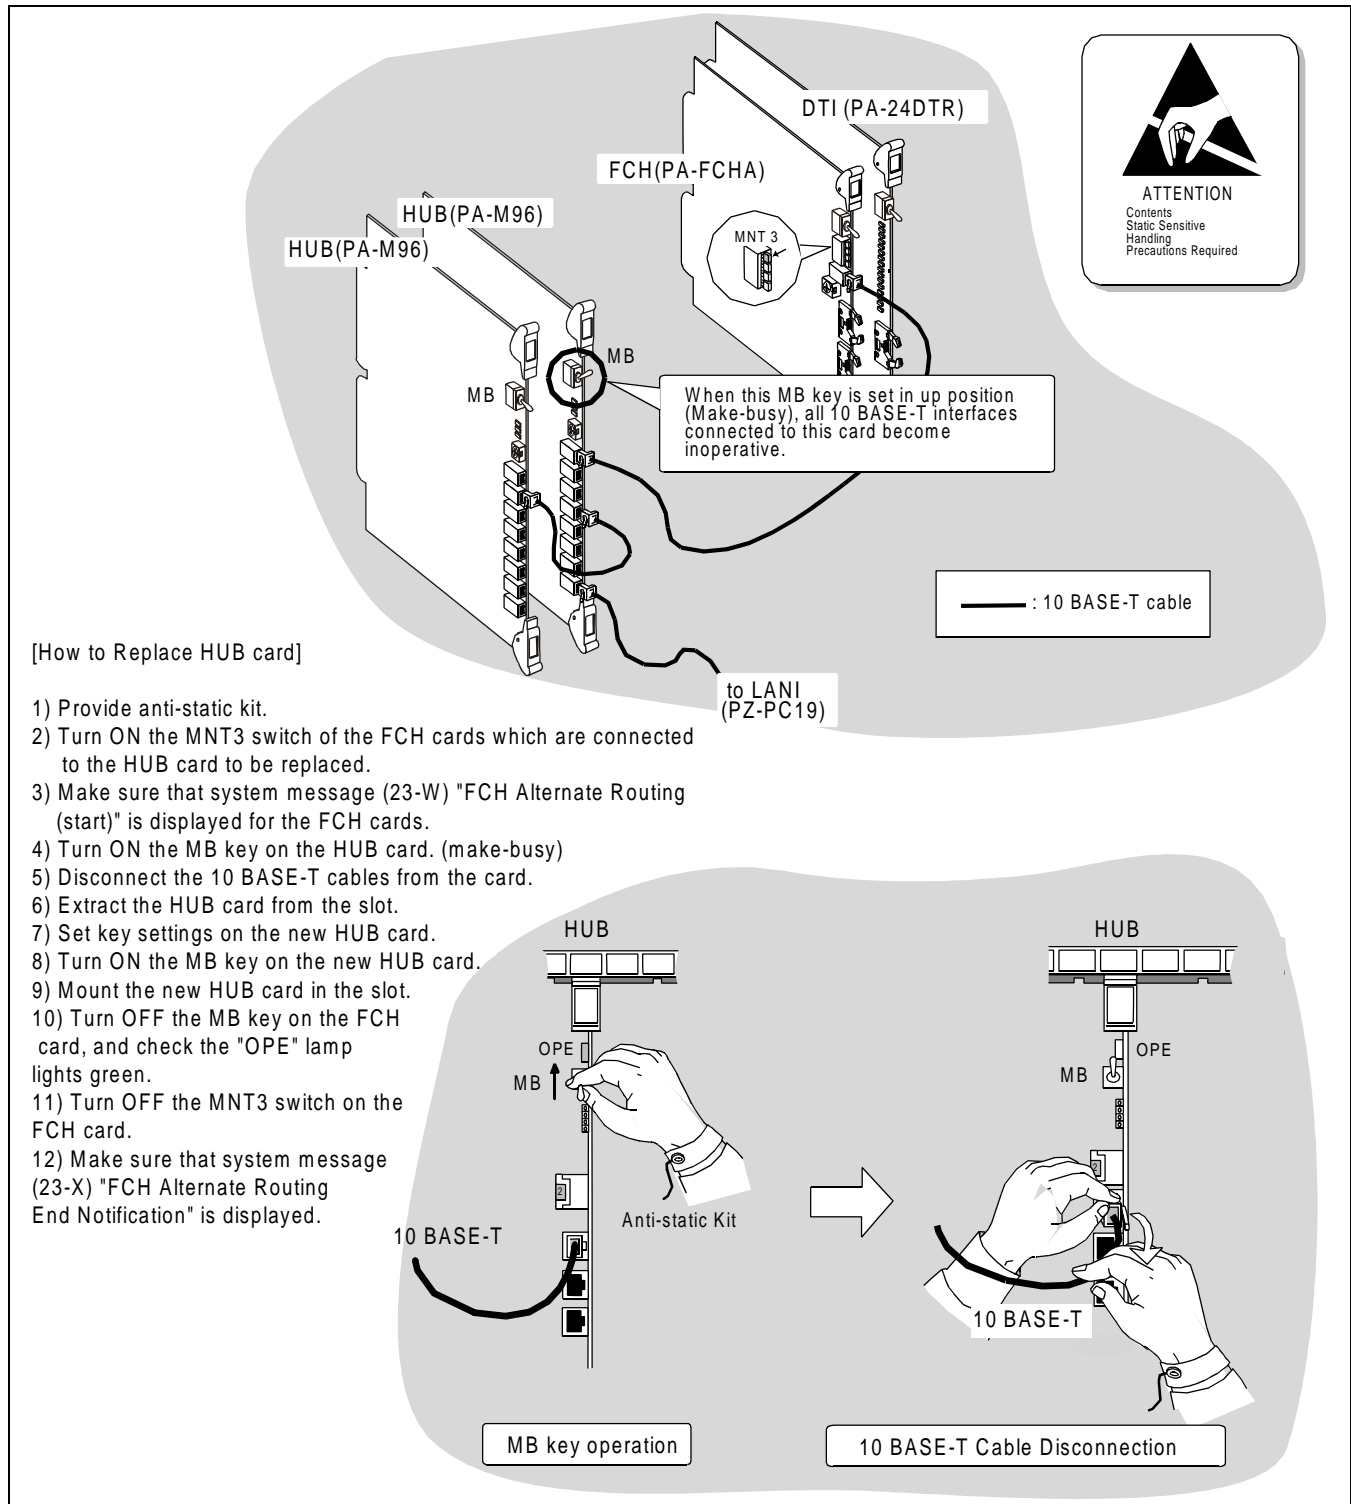

Figure 7-14 How to Replace HUB (PA-M96) Card
- HUB (PA-M96) ← See Figure 7-14 “How to Replace HUB (PA-M96) card.”